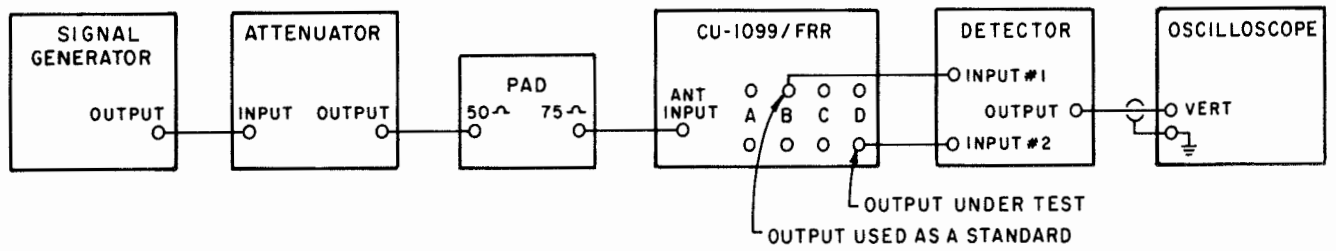

Figure 5-3. Test Set-up, Alignment of Isolator
a. **ALIGNMENT OF AN ISOLATOR BOARD.** Set up the equipment as shown in figure 5-3 and proceed as follows: